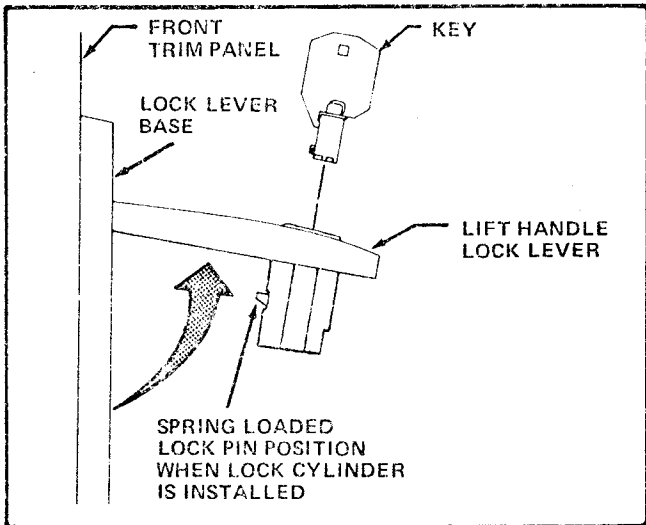

FIGURE 3
3. Push the Lock Cylinder in and turn slightly with the key if necessary until the Spring Loaded Lock Pin snaps up through the square hole in the top of the Lift Handle Lock Lever. See Figure 3.